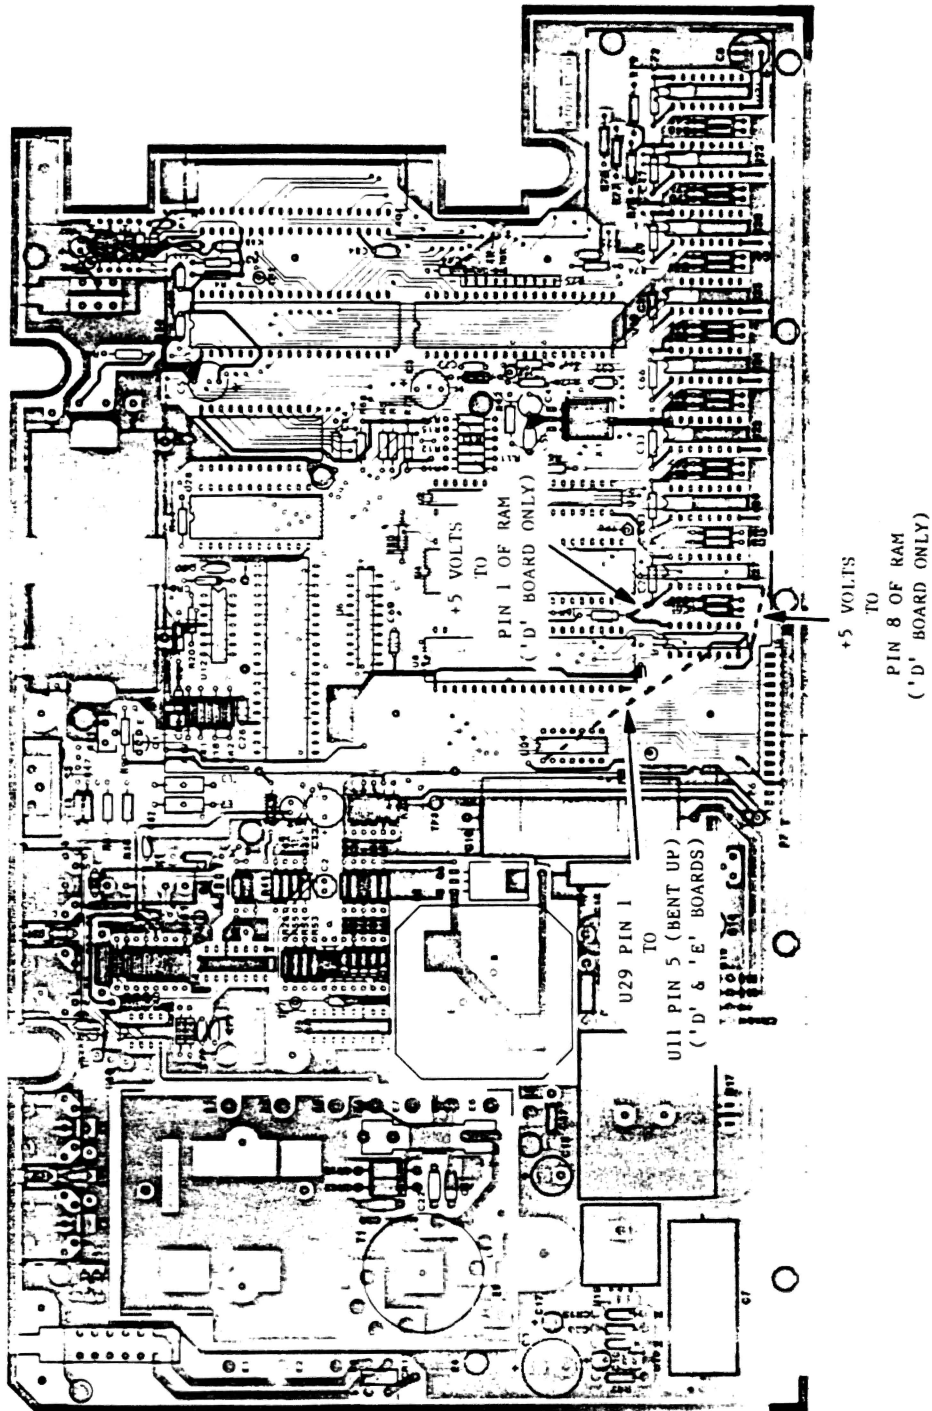

FIGURE 3
- 18) Using wire wrap wire, install the following jumper on the COMPONENT side of the PCB. See Figure 3 for location.